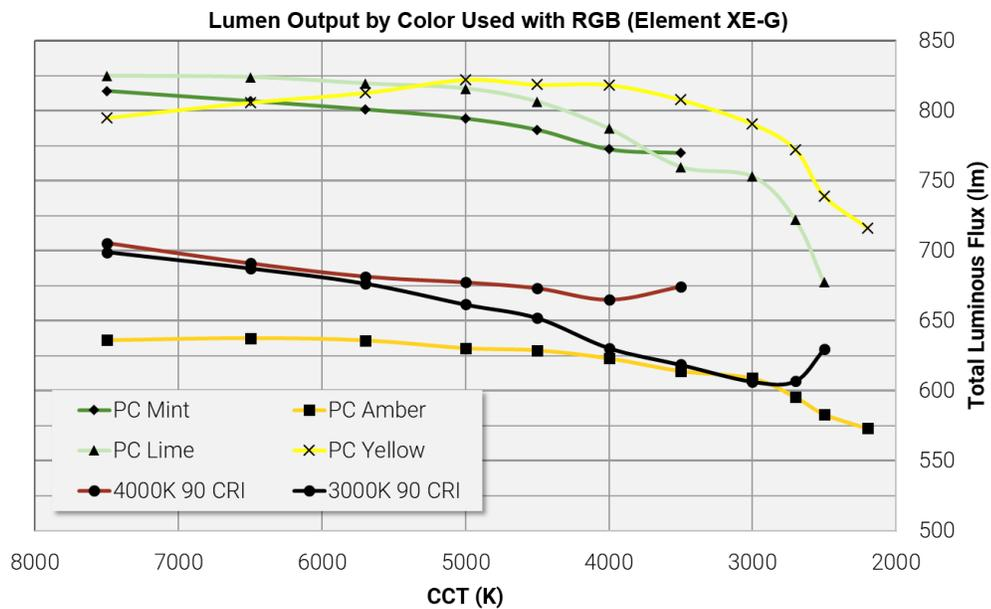

Figure 3: Luminous flux output of the 4-LED arrays sorted by the type of LED in the “white” position
The first thing noticeable about the total lumen output data shown in Figure 3 is that there are two distinct groups, higher lumens and lower lumens. The lower lumens grouping all use an LED that contains red or amber phosphor. Using phosphor to convert blue photons into amber or red photons (570-700 nm wavelengths) is less efficient than generating those photons directly with an amber or red LED due to Stokes shift and inefficiencies in the conversion process. Even though every system simulated already includes a red LED, a significant portion of the 3 A total current is routed toward the phosphor-converted LED to maximize CRI because that is the optimization target.
**Table 2: Current used to drive each channel at 2700 K CCT for the PC yellow and PC amber configurations shown in Figure 3**